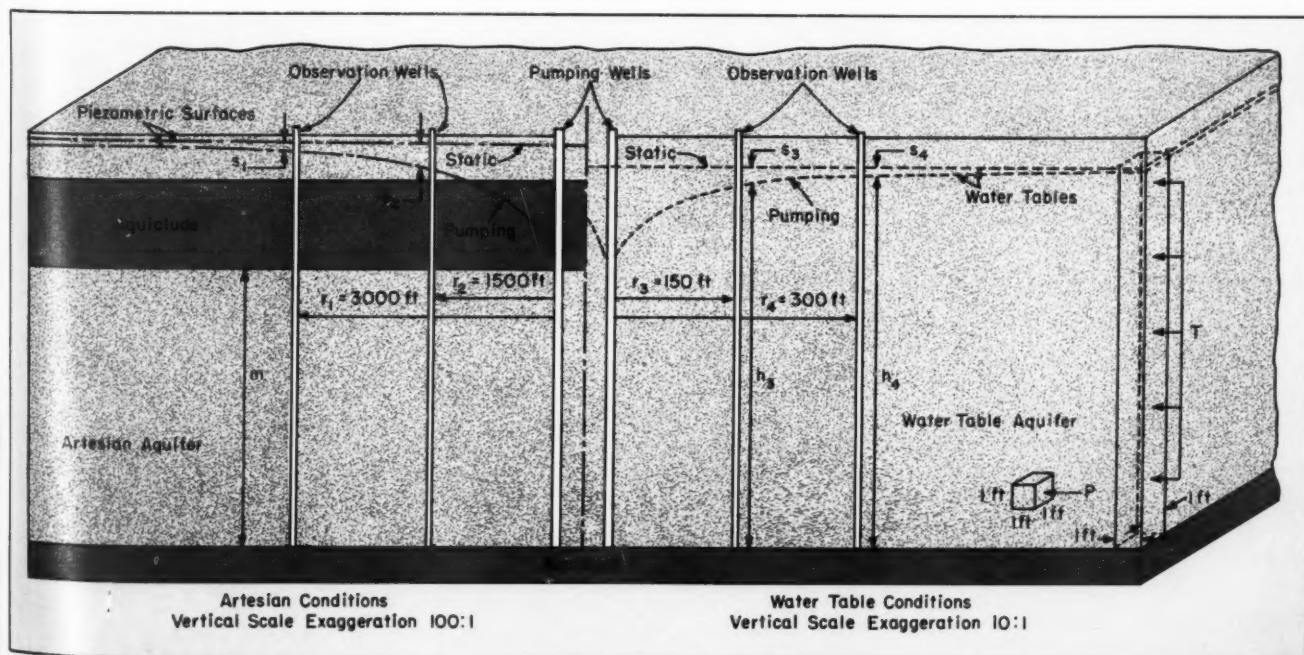

FIG. 2—CHARACTERISTIC DRAWDOWNS BY WELL PUMPING IN BOTH WATER TABLE AND ARTESIAN TYPE AQUIFERS.
In developing the fundamental modern concepts of ground-water flow into wells, various formulas have been used in the past as contrasted to those recommended for application today. Fig. 2, showing cutaway sections of typical artesian and water table aquifers with one pumping and two observation wells in each, is a convenient reference for following this progression from the basic equation for ground-water flow under steady-state conditions ob-
The first application of this equation to wells, made by Dupuit, in 1863, was modified by Thiem in 1906. Omitting the derivation (1) a useful form of Thiem's equation for the water-table condition in Fig. 2 is: